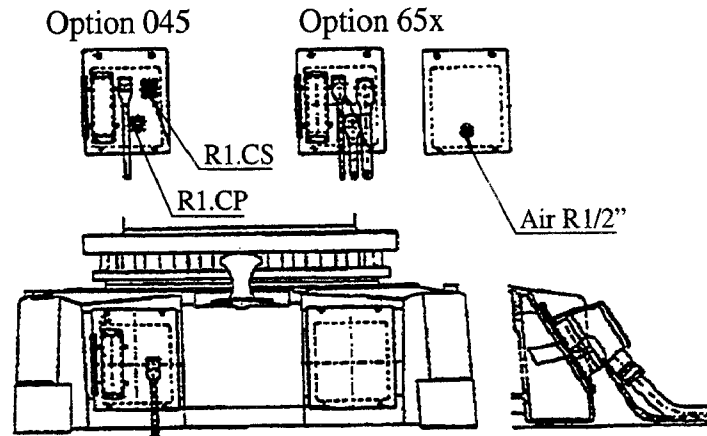
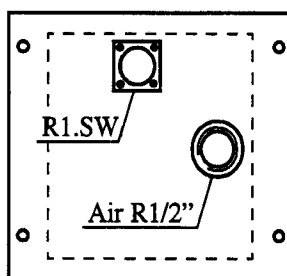

Figure 40 Connection of signals to the base.
Figure 42 Connection of position switch signals to the base.
- 045** The signals are connected directly to the robot base to one Burndy 12-pin UTG 014-12P (R1.CP), and one Burndy 23-pin UTG 018-23P (R1.CS) connector (see Figure 40). The cables from the manipulator base are not supplied.
The signals are connected to the controller (see Figure 48), by a separate cable from the manipulator base, R1.SW, (see Figure 42 and Figure 40).